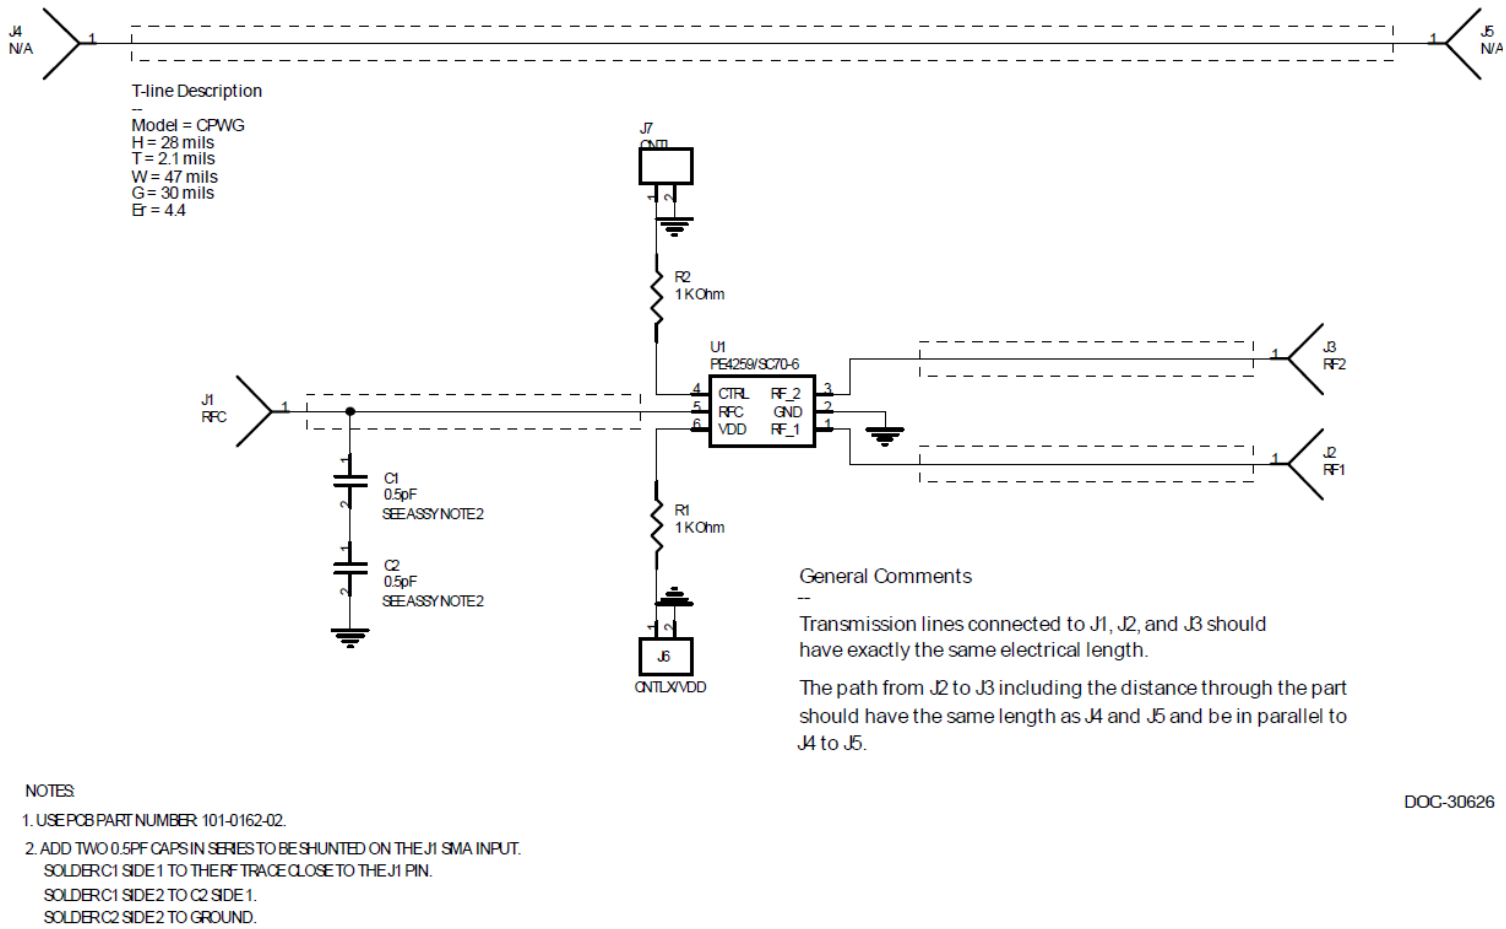

Figure 13. Evaluation board schematic
2. A tuning capacitor must be added to the application board to optimize the insertion loss and return loss performance. For details, see Figure 13.